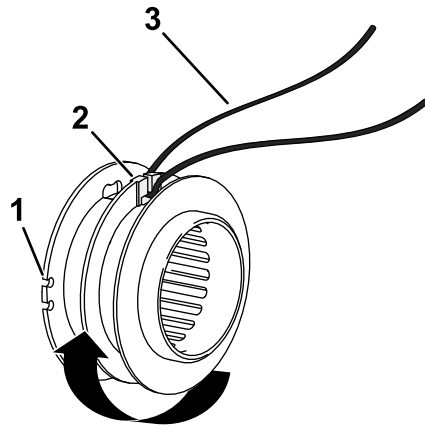

Figure 18
5. Bend the new string at the midpoint and insert the bend into the starter slot in the center rim of the spool (Figure 18).
6. Wrap the 2 halves of the string evenly and firmly around the spool as shown in Figure 18.
7. Wind the string, leaving just enough extending from the spool to contact the swath blade, and snap the ends into the guide slots on the spool (Figure 18).